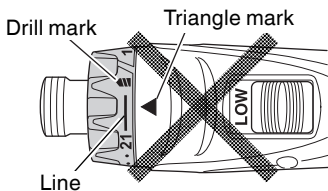

Fig. 10
- Do not use with the clutch dial set at the line between the number “21” and the drill mark “”. Doing so may cause damage (See Fig. 10).